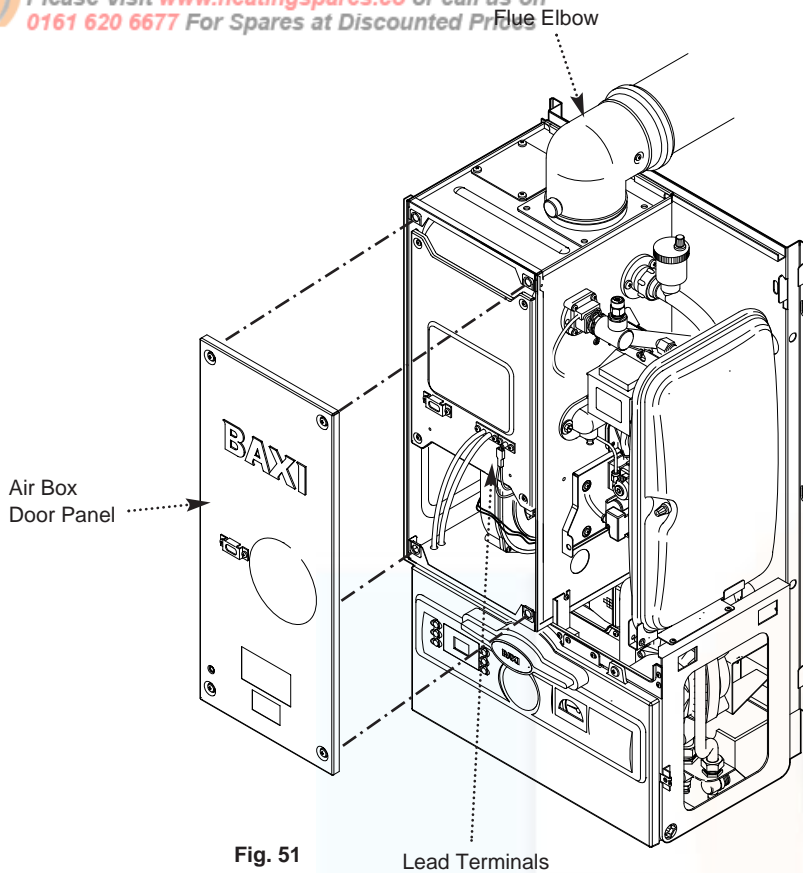

Fig. 51
6. Release the four ¼ turn screws securing the air box door panel and remove the door (Fig. 51).
7. Disconnect the three lead terminals from the combustion box door taking note of their positions (Fig. 51).